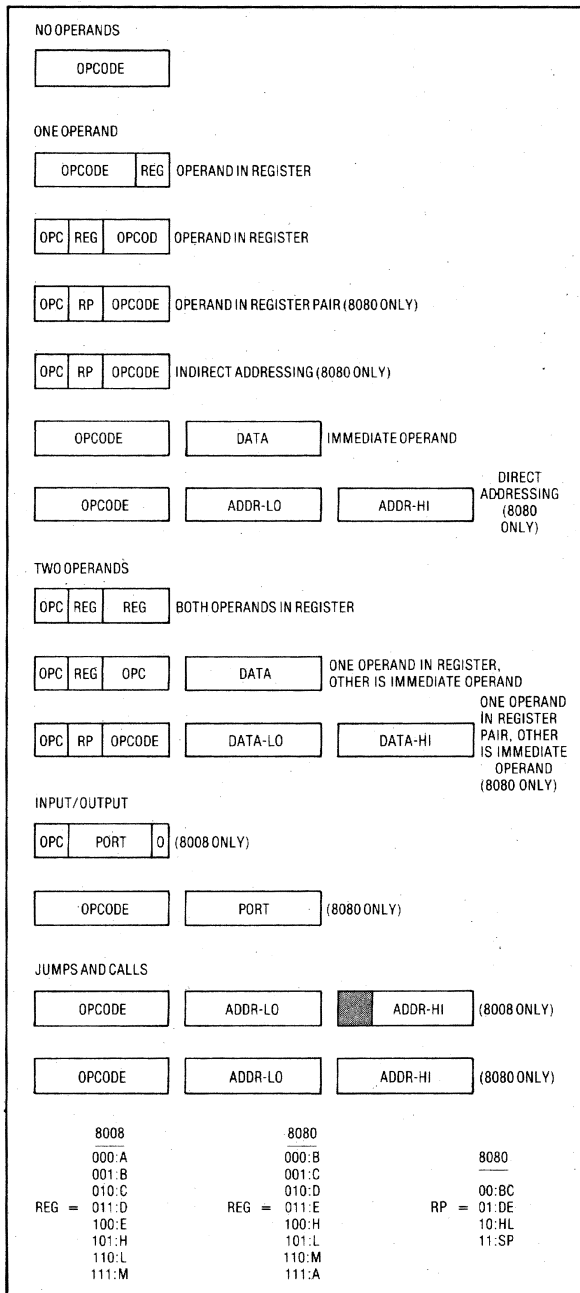

Figure 1. Typical 8008 and 8080 instruction formats.
**Instruction set.** The 8008 instructions are designed for moving or modifying 8-bit operands. Operands are contained in the instruction itself (immediate operand), in a scratchpad register (register operand), or in the M register (memory operand). Since the M registers can be used interchangeably with the scratchpad registers, there are only two distinct operand addressing modes—immediate and register. Typical instruction formats for these modes are shown in Figure 1.